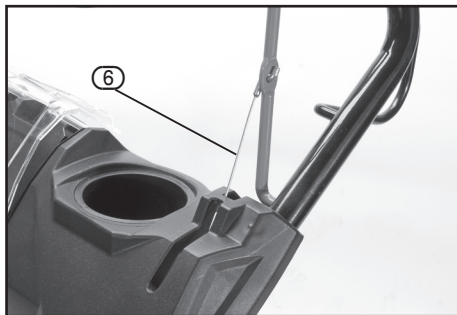

FIG. 18
8.11 INSTALLING THE CONTROL PANEL – FIGS. 18–21